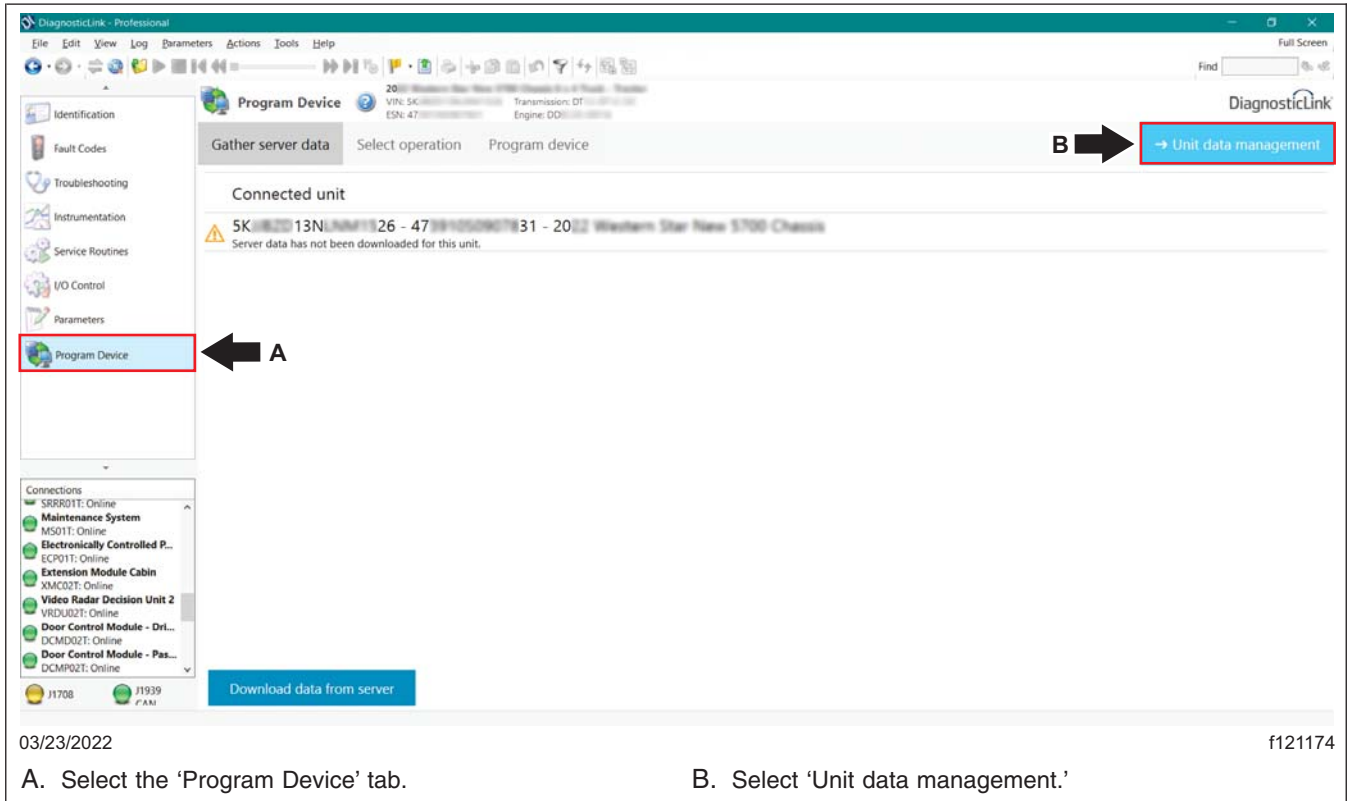

Fig. 5, Selecting Unit Data Management
- Once the parameter change is complete, go to the 'Program Device' tab, then select 'Unit data management' in the upper-right corner. See Fig. 5.